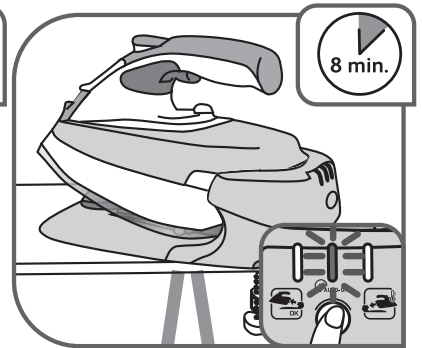

Fig. 16\*
- Flashing orange light (according to model): Auto-Off function activated (see the section “Auto-Off safety”) – **fig.16**.